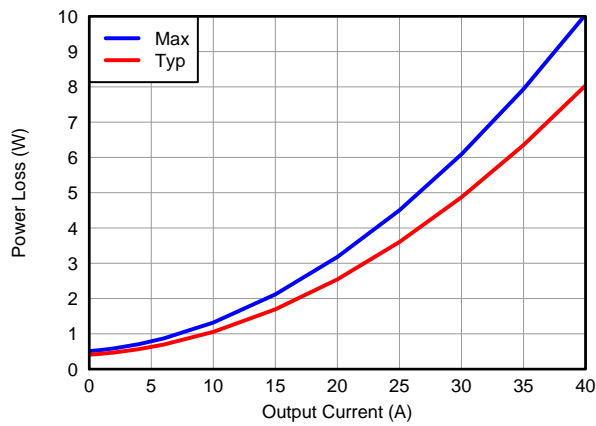
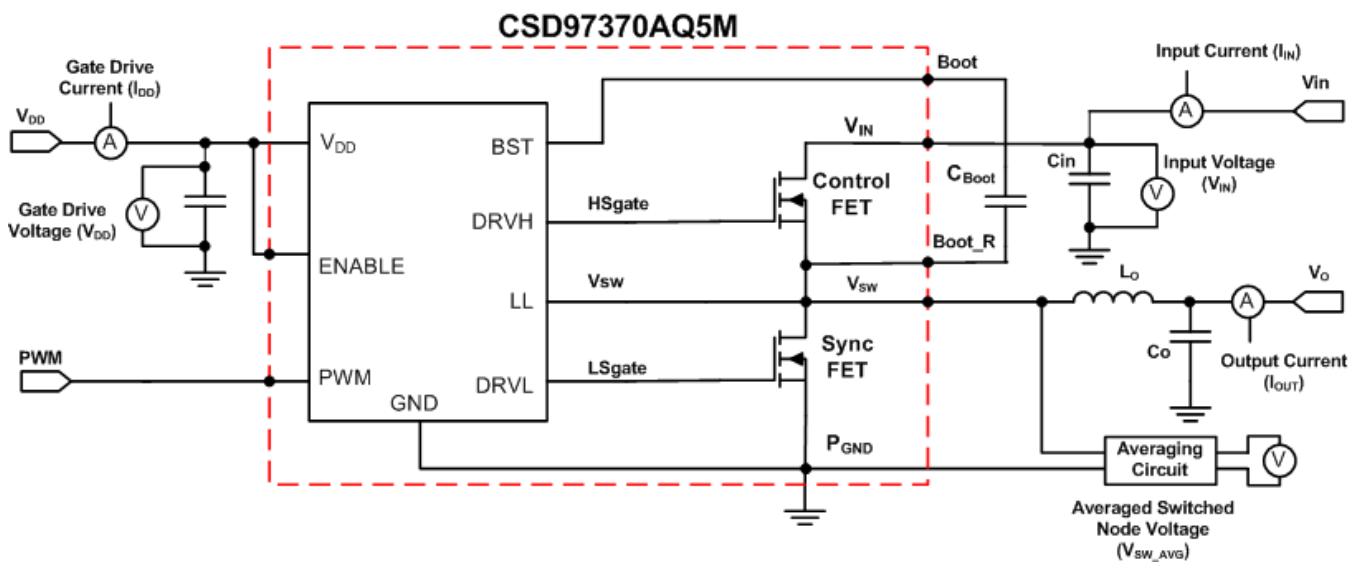

Figure 7. Power Loss vs Output Current
Figure 18. Power Loss Test Circuit
MOSFET centric parameters such as $R_{DS(ON)}$ and Q_{gd} are primarily needed by engineers to estimate the loss generated by the devices. In an effort to simplify the design process for engineers, Texas Instruments has provided measured power loss performance curves. Figure 7 plots the power loss of the CSD97370AQ5M as a function of load current. This curve is measured by configuring and running the CSD97370AQ5M as it would be in the final application (see Figure 18). The measured power loss is the CSD97370AQ5M device power loss which consists of both input conversion loss and gate drive loss. Equation 1 is used to generate the power loss curve.
The power loss curve in Figure 7 is measured at the maximum recommended junction temperature of $T_j = 125^\circ\text{C}$ under isothermal test conditions.
- Typical Power Loss at 25A = 3.5W (Figure 7)